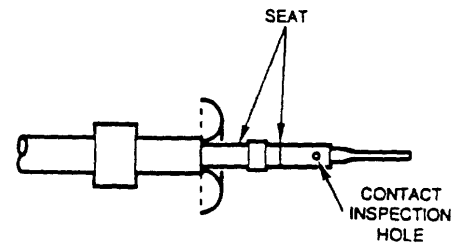

Figure 7. Contact Seating
d. Slide rear insulator, large diameter first, over center conductor, then seat rear insulator against dielectric as shown in Figure 7.
e. Insert center conductor into center contact and trim center conductor as required to seat center contact against rear insulator. Ensure center conductor remains visible in contact inspection hole (Figure 7).